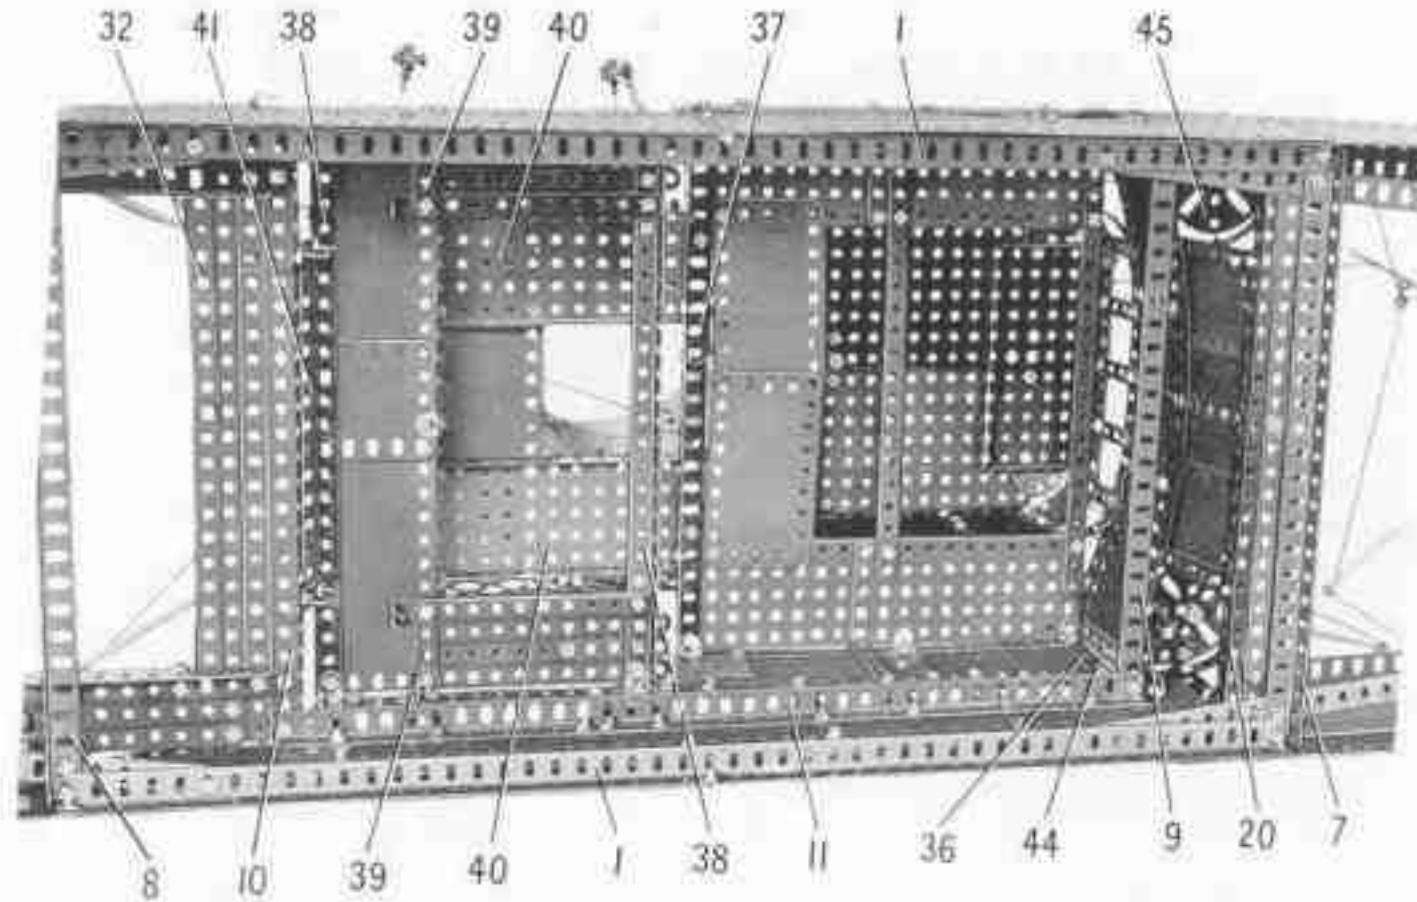

FIG. 5 This view shows the superstructure as seen from inside the hull, and the bracing girders that strengthen the hull amidships
The lower section of the plating on each side of the hull consists of a  $9\frac{1}{4}'' \times 2\frac{1}{4}''$  Strip Plate and six  $12\frac{1}{2}'' \times 2\frac{1}{4}''$  Strip Plates bolted together. These Plates are strengthened along their lower edges by  $12\frac{1}{2}''$  Strips at the bow and the stern, and by a  $24\frac{1}{2}''$  Angle Girder (1) (Fig. 5) amidships. The Strip Plates amidships are
The sides of the hull are connected by two  $12\frac{1}{2}$ " Angle Girders (7) and (8) (Fig. 5) and by similar Girders (9) and (10) bolted to the ends of  $18\frac{1}{2}$ " Angle Girders (11). Two  $18\frac{1}{2}$ " Angle Girders fixed to the Girders (1) and (8) are supported at their rear ends by a  $9\frac{1}{2}$ " Angle Girder (12), which is attached to the sides of the hull by Angle Brackets. Two  $24\frac{1}{2}$ " Angle Girders are bolted to the Girders (1) and (7), and to a  $9\frac{1}{2}$ " Angle Girder (13) that is connected to the hull by Angle Brackets.
A  $7\frac{1}{2}$ " Strip (17), with a  $5\frac{1}{2}$ " Angle Girder bolted centrally to it, is attached to the strip (16) by two Fishplates. A  $12\frac{1}{2}$ " Flat Girder (18) on each side is supported by the Strip (17), and its rear end is joined by a  $2$ " Flat Girder to a further  $12\frac{1}{2}$ " Flat Girder (19). The front end of the latter part is connected to the side of the hull by an Angle Bracket, and the rear end is supported by a  $12\frac{1}{2}$ " Angle Girder (20) (Fig. 5), which also is fixed to Angle Brackets. Two  $12\frac{1}{2}$ " Strips are bolted across the Flat Girders (19) in front of the Angle Girder (20).
The top edges of these Plates are strengthened by two 5½" Strips, and the front edge of the 4½" x 2½" Flexible Plate is braced by a vertical 7½" Strip (36) (Fig. 5). A 5½" x 2½" and a 4½" x 2½" Flat Plate on each side are attached by Angle Brackets to the strips (33). The Flat Plates are connected across by two 9½" Strips, two 4½" x 2½" Flexible Plates, and a built-up girder (37) made from a 7½" and a 5½" Angle Girder overlapped two holes. The rails on each side are 5½" and 3½" Strips bolted to the top ends of the Strips (35) and (36) and to a Semi-Circular Plate at the rear.
A  $5\frac{1}{2}$ "  $\times$   $2\frac{1}{2}$ " Flanged Plate (40) on each side is bolted to the girder (37) and these are connected at their rear ends by one half of a Hinged Flat Plate (Fig. 5). A  $5\frac{1}{2}$ " Braced Girder is fixed to the outer flange of each Flanged Plate, and two  $4\frac{1}{2}$ "  $\times$   $2\frac{1}{2}$ " Flexible Plates overlapped two holes are bolted to the rear flanges. The lower edges of the Flexible Plates are strengthened by two  $4\frac{1}{2}$ " Strips. A  $7\frac{1}{2}$ "